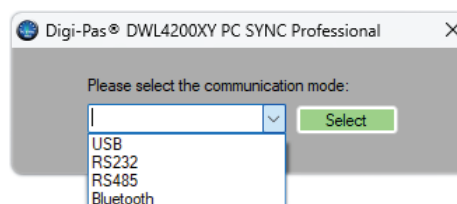

Figure 16. Shortcut of the DWL4x00XY PC SYNC
4. Assuming steps stated in 3.1 Configuration of Single Compact Sensor Module with Converter and 4.1 Installation of the DWL4x00XY PC Sync Software have been done in this stage. Open PC SYNC software and select RS485 from the drop down menu as shown in Figure 16.